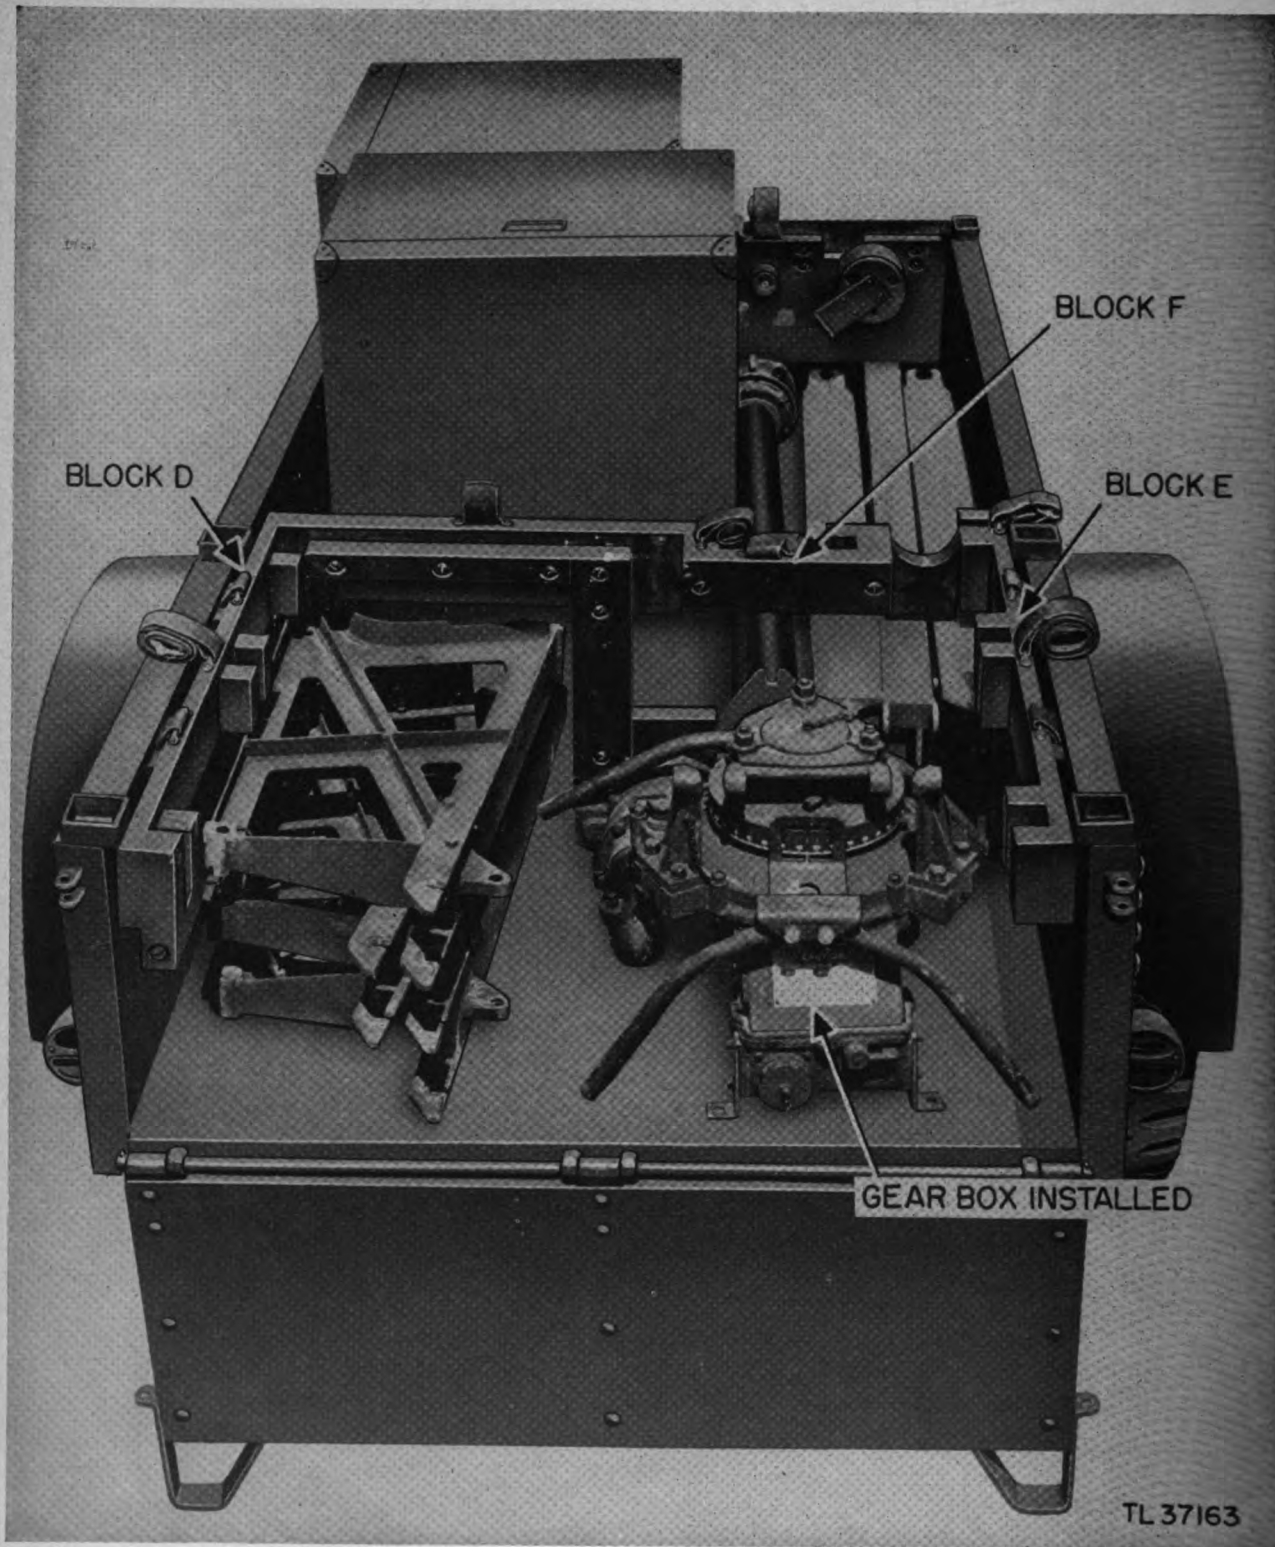

Figure 118. Blocks D, E, and F installed.
j. Install blocks D, E, and F (fig. 118). The rectangular steel collars attached to blocks D and E must line up with the stake pockets. Insert block F in the forward channel of blocks D and E.